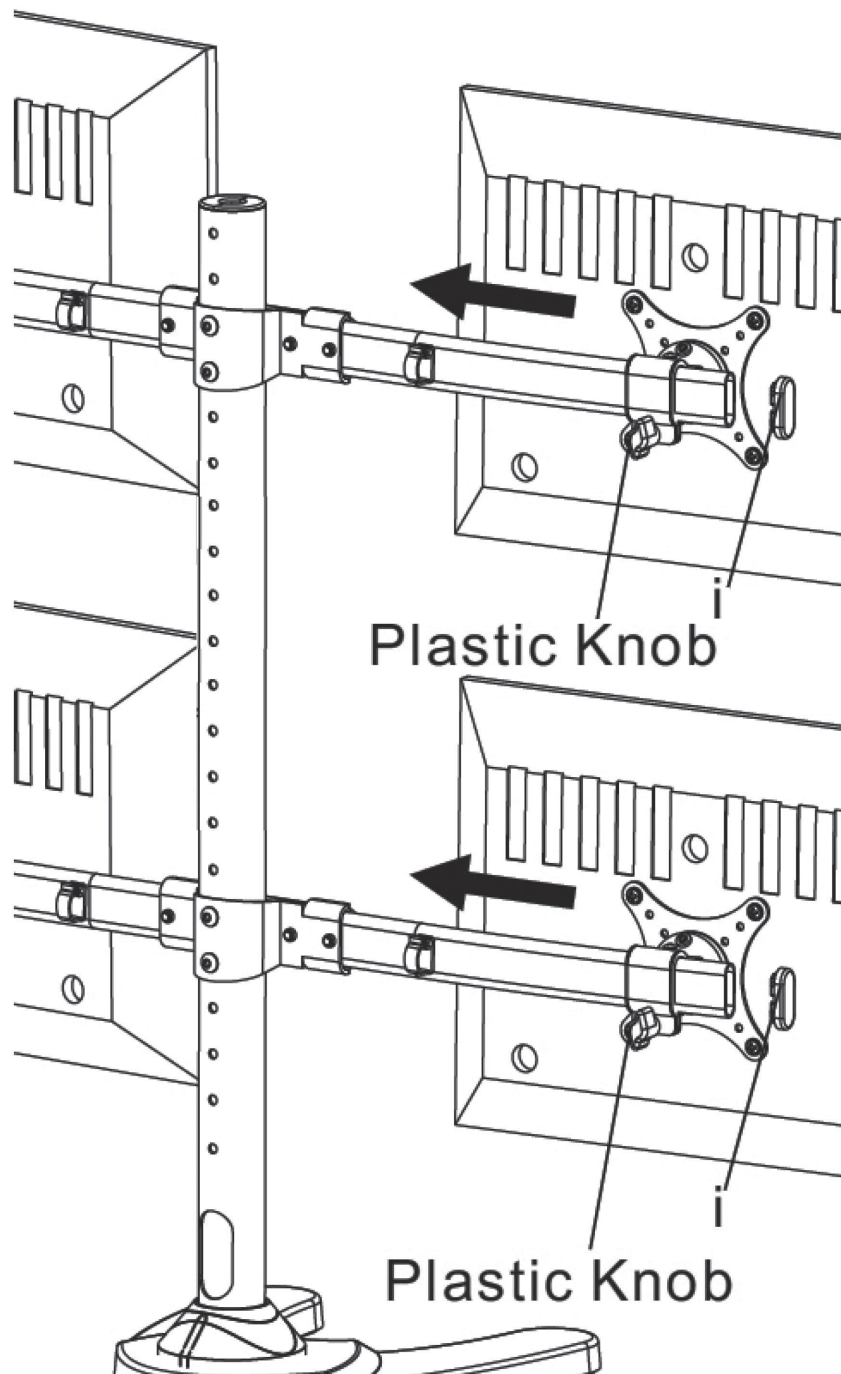

Figure 4a
1. Slide the VESA Plate with Monitor Assemblies onto the Arm Assemblies, secure by rotating the **Plastic Knob**, then install the **Arm Plastic Covers (i)** onto the Arm Assemblies as shown in **Figure 4a**. **Caution:** For Weighted Base Installation, we suggest you have a helper hold the desk stand upright while attaching your monitors to prevent damage to the monitor or desk stand and ensure your personal safety.